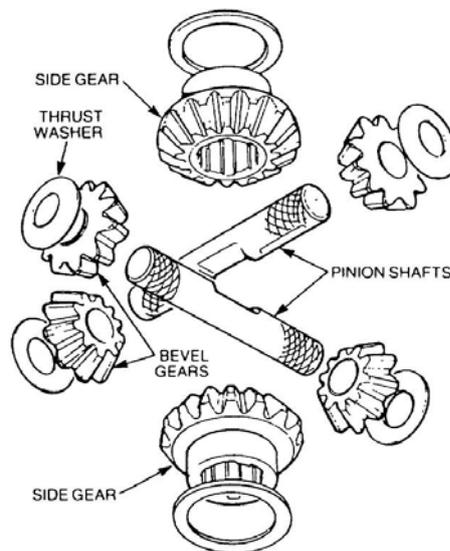

Figure 74 Removal of the Differential Gears
- t. Lift off the upper side gear (Figure 74), slide out the pinion shafts and remove the bevel pinions and thrust washers. Remove the lower side gear.